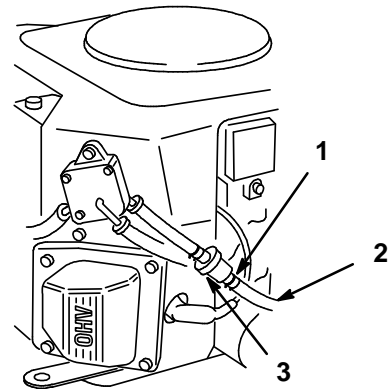

Figure 28
4. Squeeze the ends of the hose clamp together and slide it up the fuel line toward the fuel tank (Fig. 28).
5. Pull the fuel line off the filter (Fig. 28). Open fuel shut-off valve and allow gasoline to drain into a gas can or drain pan.